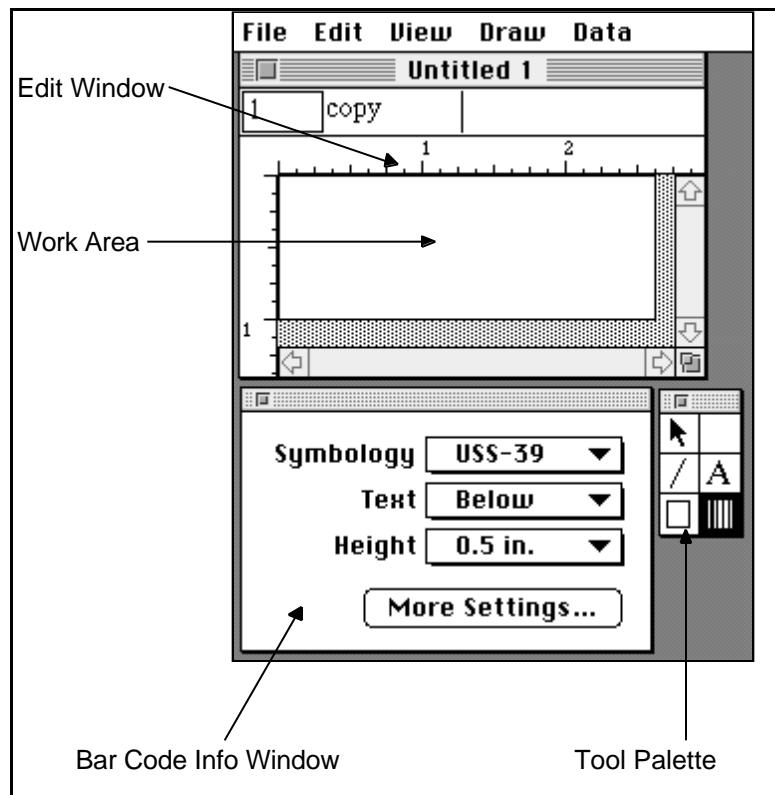

Figure 2-1 Wasp Bar Code Builder Document Window
1. Start Wasp Bar Code Builder by double clicking its icon. A document window similar to Figure 2-1 appears, along with the Bar Code Info window and the tool palette.